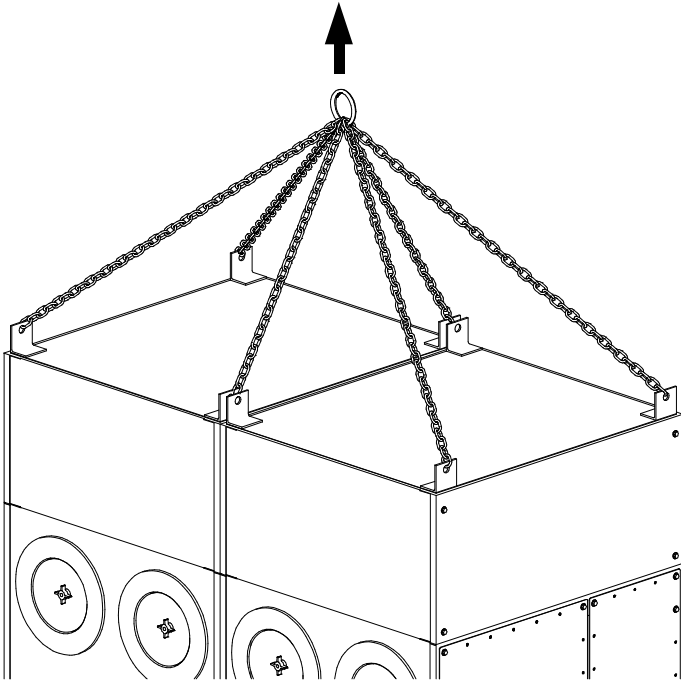

FIGURE 1
2. Lift the unit with a lift truck or overhead crane using the lifting brackets. Caution: Use the suggested method as shown or damage may result to the unit. (see **Figure 1 & 2**)